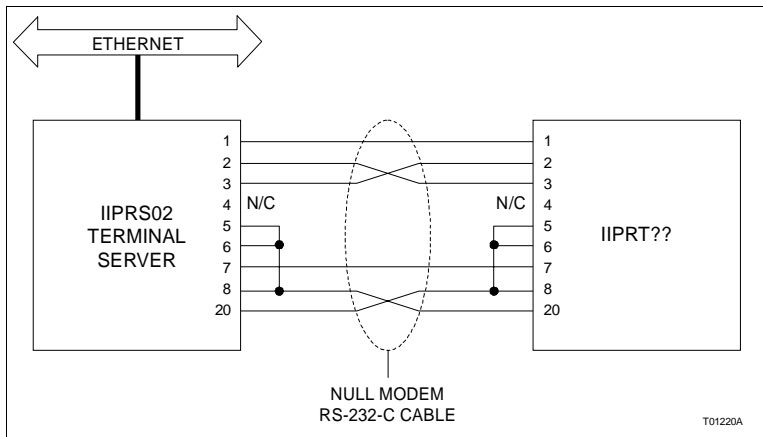

Figure PR35-1. Printer Cable Configuration
- 3. Connect one end of the printer cable to the DB-25 serial connector of the printer (Fig. PR35-1).